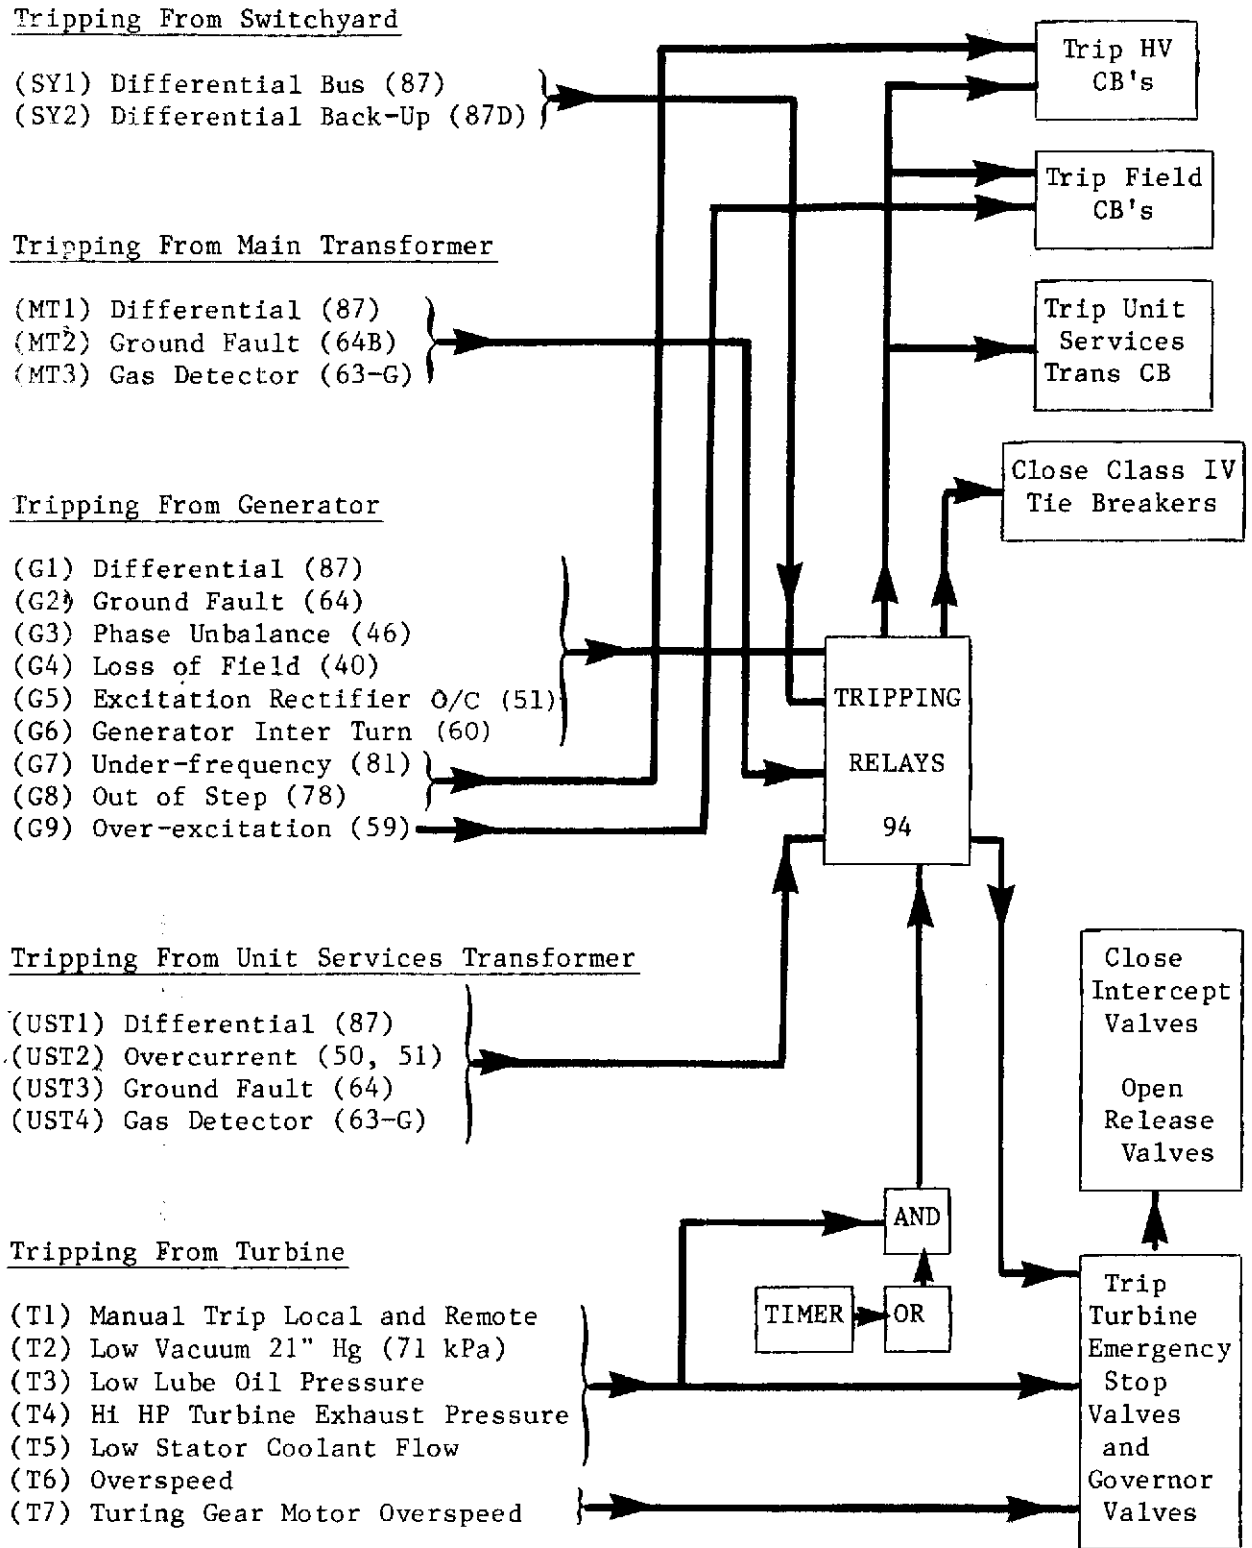

Figure 2: Block diagram showing the simplified tripping for a turbine generator and its associated circuits.
Figure 2 shows in block diagram form, the simplified tripping for a large turbine-generator and its associated circuits.
3.1.1 Points to Note on Figure 2